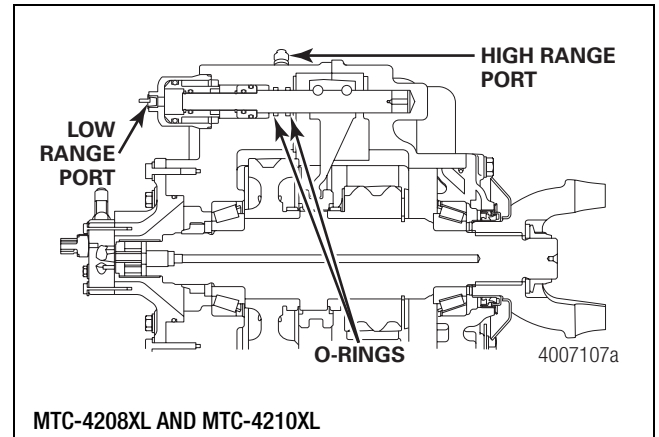

Figure 6.28
1. Grease all O-ring seals. Use a light coat of lithium-based grease, Meritor specification O-668. Refer to Figure 6.28 for shifter component arrangement.